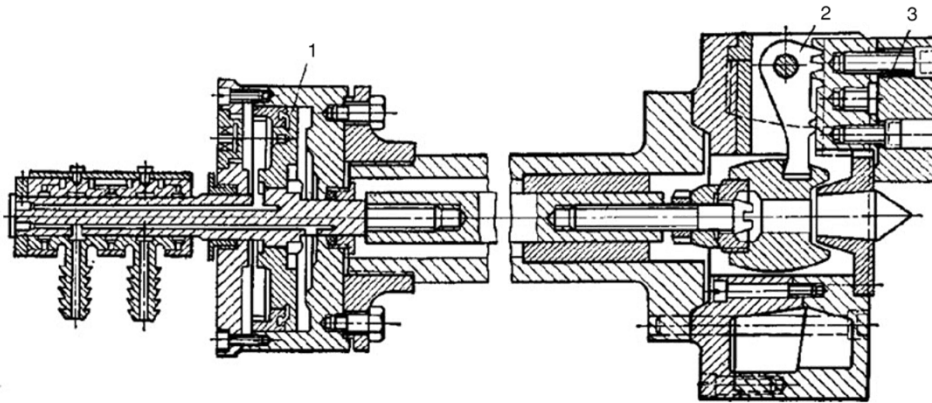

FIGURE 3.12 Pneumatic chuck.
- Air-operated (pneumatic) chucks are commonly used in batch or mass production by increasing the degree of automation (Figure 3.12).
- The piston (1) is attached to a rod that moves it to the right or to the left depending on which chamber of the pneumatic cylinder is fed with compressed air.
- The end of the rod is connected to three levers (2), which expand jaws (3) in a radial direction to clamp or release the WP.